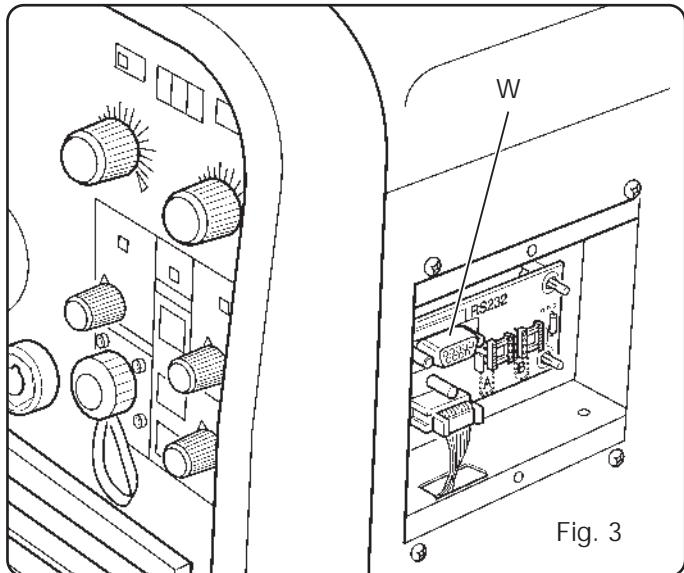

Fig. 3
3.4 CONECTOR TIPO DB9 (RS 232) (Fig. 3)